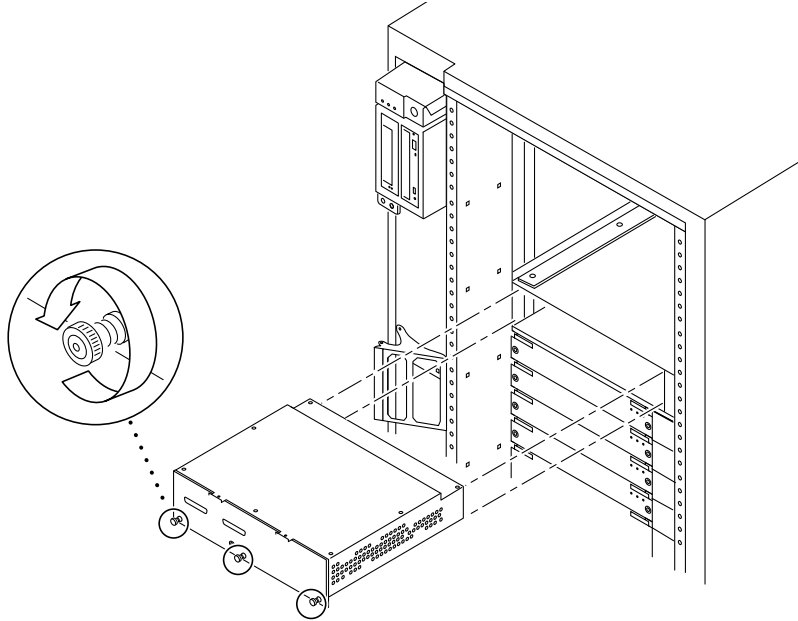

FIGURE E-12 Removing the SCSI Tape Adapter PCS Assembly in the Enterprise 6500/5500 Systems
- 3. Loosen the three captive screws on the bottom that secure the SCSI adapter assembly to the cabinet (FIGURE E-12).**
- 2. Tighten the three captive screws on the bottom that secure the SCSI adapter assembly to the cabinet (FIGURE E-12).**